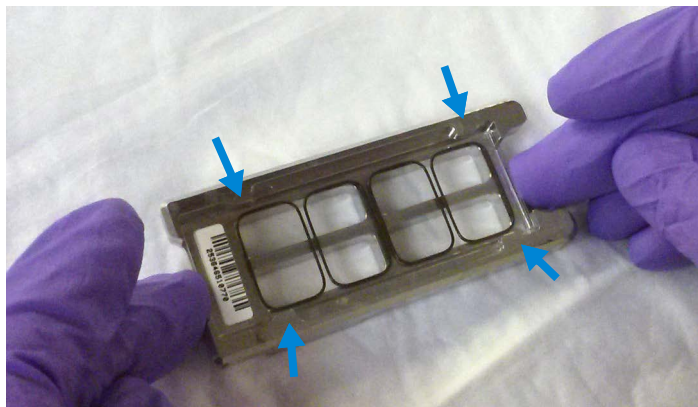

Figure 7. Chamber base with gasket and microarray slide applied, guide posts denoted with arrows
- 2 Use the four chamber base guideposts and rectangular end of the base to position the microarray slide as you lower it to within 3 mm (1/8") above the gasket slide, making sure the microarray slide is not tilted with respect to the gasket slide. Barcode ends of both the gasket slide and the microarray slide must line up at the corners of the chamber base. Once positioned, gently rest the microarray slide on the lower gasket slide. Refer to **Figure 7** for proper technique on holding the microarray slide with both hands.